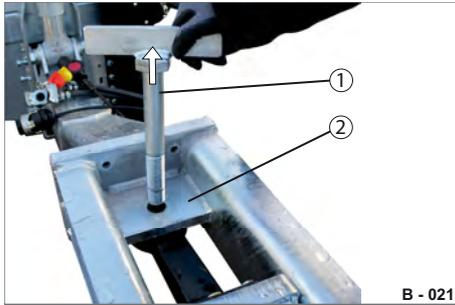

Fig. 30 Removing fastening bolt
- ▶ Pull out the fastening bolt (Fig. 30/1).